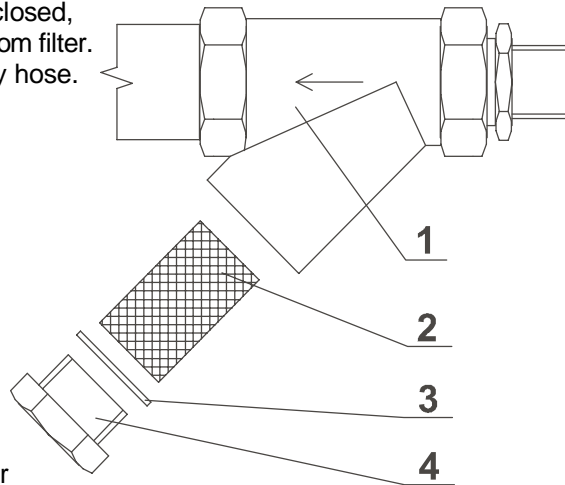

Fig.5.5. Steam filter
If machine steam (hot water) supply line is cold and closed, remove the plug (see fig.5.5.,pos.4) and screen (2) from filter. Water filter is accessible after disconnecting the supply hose. Clean up the filter and put it back.